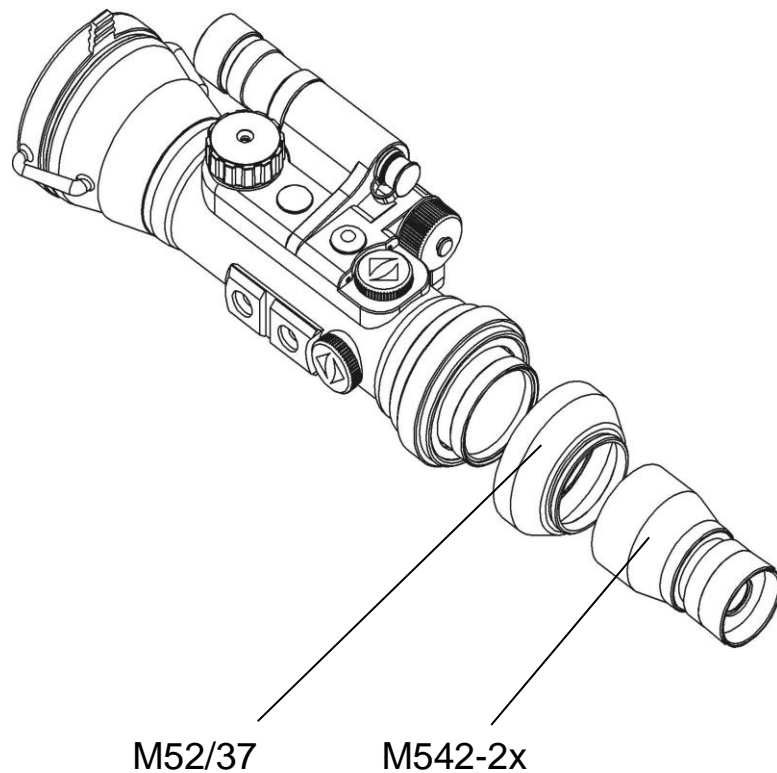

Figure 6
- Insert the jack of the remote control into the Female Connector (2) (Fig.6).
- Fix the Remote Control (4) on the weapon with the Fixating Band (6) in a comfortable position.
- Press and release the button (3) to turn the device on.
- Press and release the button (5) to turn the IR Illuminator on.
- Next press and release of the buttons (3) and (5) toggle the controlled functions.